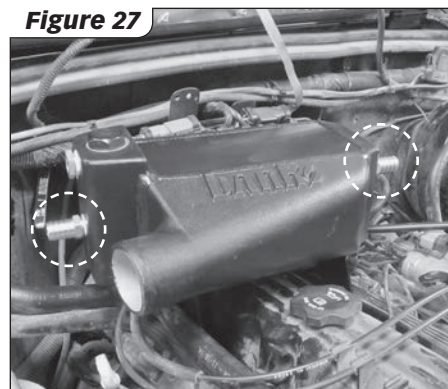

Figure 27
10. Install straight barbed fittings (P/N 92188) into Techni-Cooler using 2 layers of thread sealing tape (P/N 91099). Tighten 2-3 turns past finger-tight. **See Figure 27**
See Figure 27